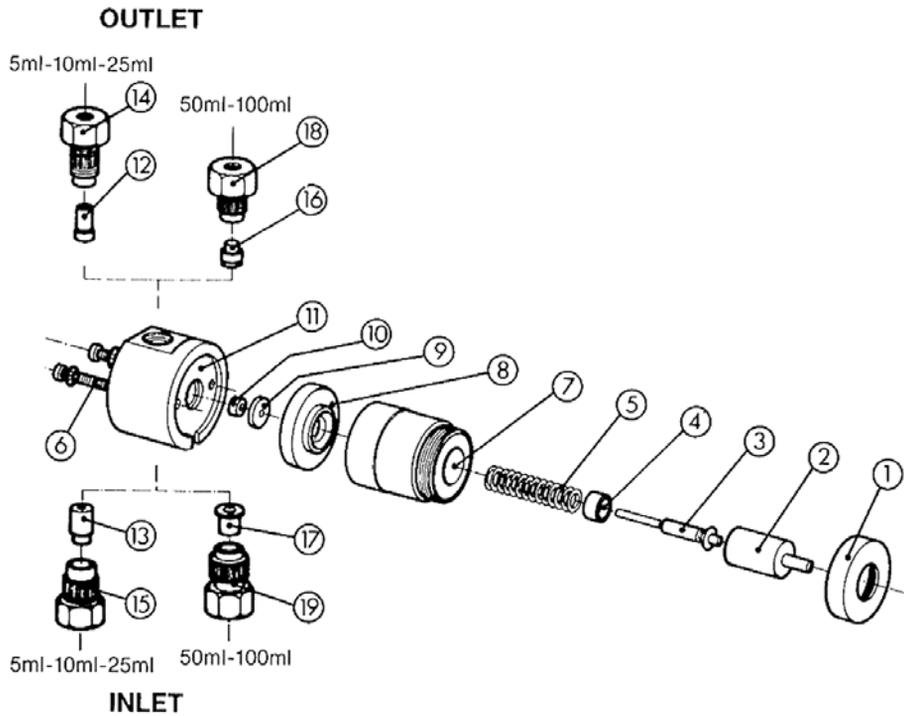

Figure 19 Standard pump head (exploded view)
- 4** Unscrew the threaded cap (see Figure 19 on page 81) and remove all parts possible from this side of the head.